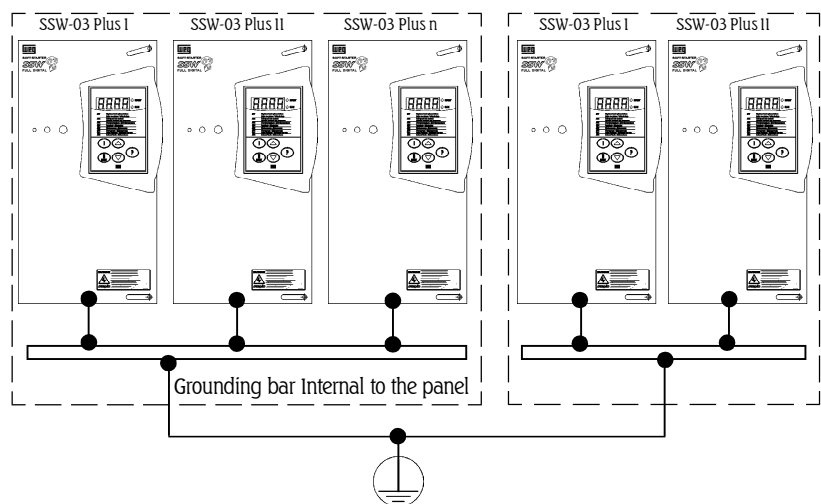

Figure 3.6 - Grounding connection for more than one Soft-Starter
- ❶ The line voltage must be compatible with the rated voltage of the Soft-Starter.
- ❷ For installation use the cable cross sections and the fuses recommended in Table 3.1, 3.2, 3.3, 3.4. Maximum torque as indicated in table 3.5.
- ❸ Power factor correction capacitors must never be installed on the Soft-Starter output.
- ❹ The Soft-Starters must be grounded. For this purpose use a cable with a cross section as indicated in Tables 3.2, 3.3, 3.4. Connect it to a specific grounding bar or to the general grounding point (resistance ≤ 10 ohms). Do not share the grounding wiring with other equipment which operate at high currents (for instance, high voltage motors, welding machines, etc.). If several Soft-Starters are used together, see Figure 3.6.